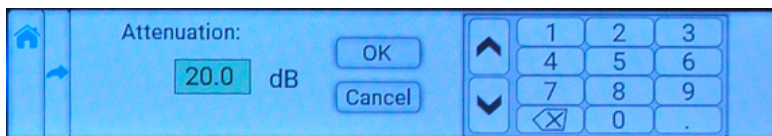

Figure 6: Adjust Attenuation Setting (Operation > Attenuation)
5. Tap the "OK" button to proceed or the "Cancel" button to cancel. See Figure 6.